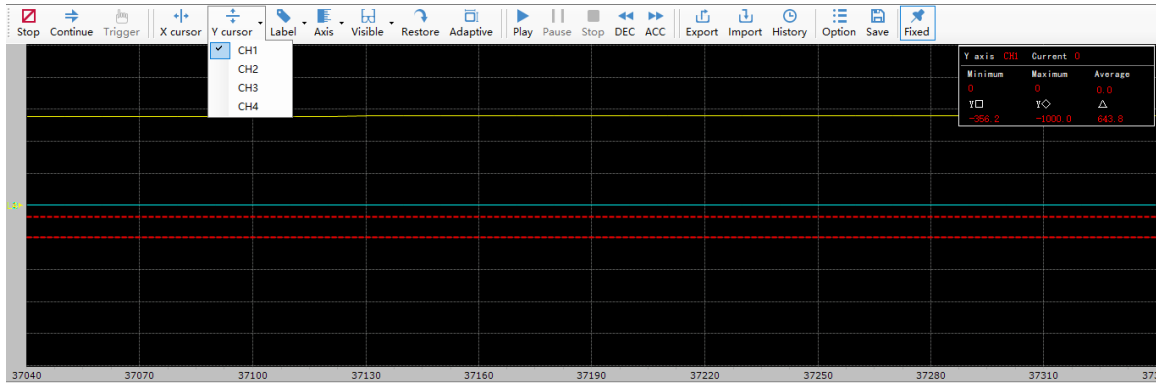

Figure 22
1. Click toolbar icon **Y cursor**. If you select [CH1], the graph automatically displays the corresponding two axes of Y1 and Y2. The color is the same as that of CH1; as shown in figure 22 below: